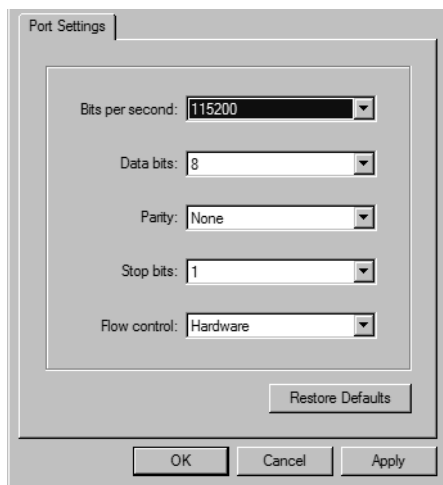

Figure 8: Port Settings dialog box
6. Ensure the **Connect using** field displays **COM1** or **COM2** (depending on the serial communication port connection to the switch), and click **OK**. The Port Settings dialog box displays (Figure 8).